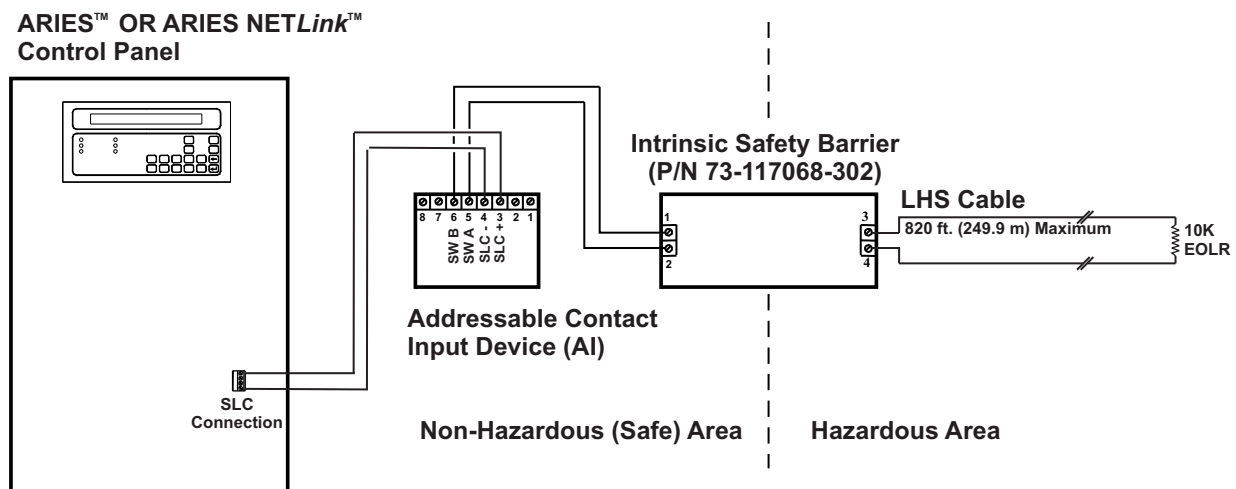

Figure 1. Typical Schematic Wiring Diagram
As shown in Figure 1, the Intrinsic Safety Barrier (P/N 73-117068-302) is used in Intelligent LHS applications where SmartOne® Addressable Contact Input Devices (AI) interface one circuit of the LHS cable to the ARIES™ or ARIES NETLink™ Control Panel. Each Intrinsic Safety Barrier handles two conductors and hence only one Safety Barrier is required for each LHS circuit.